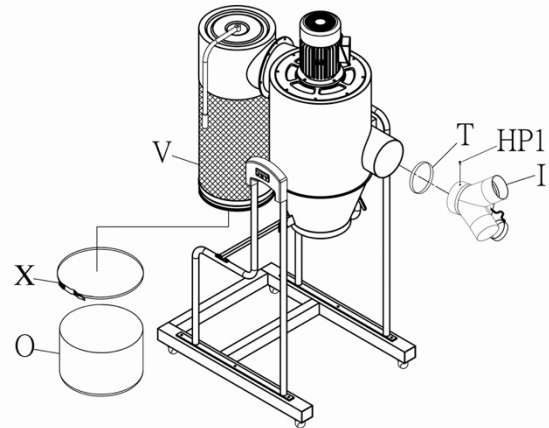

Figure 10
11. Apply foam tape (T) around inlet port near edge. See Figure 10. The foam tape should completely encircle the port.
12. Install inlet adaptor (I) on main housing and secure with pan head screw (HP1).
13. Apply foam tape (V) just above lower lip of canister filter. The foam tape should completely encircle the canister filter.
14. Install collection bag (O) to bottom of canister filter and secure with steel bag clamp (X). Note: Masking tape can be used to hold bag in position on canister until clamp is secured.